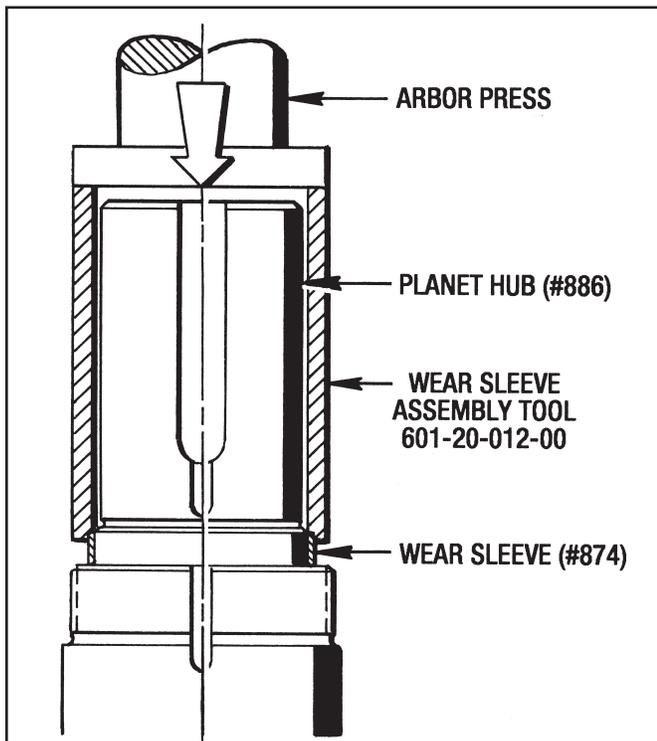

Figure 9.24 - Installing Wear Sleeve (#874)
1. Place the Planet Hub into an arbor press and with the Wear Sleeve Assembly Tool press the Wear Sleeve (#874) on to the Planet Hub (#886) until it bottoms out on the shoulder. (See Figure 9.24)